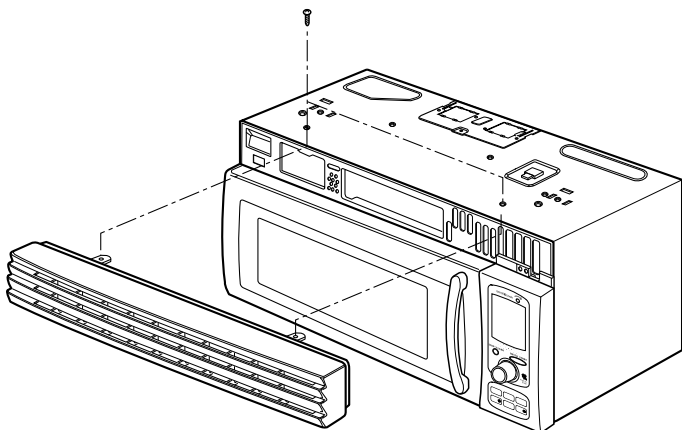

Figure 11
(Figures 11 Through 13)
- (1) Remove the vent grille by loosening two screws. (Figure 11)
- (2) Remove the outcase. See page 7-6.
- (3) Remove three tap tite screws securing the magnetron to the wave guide.
- (4) Remove the magnetron VERY CAREFULLY.